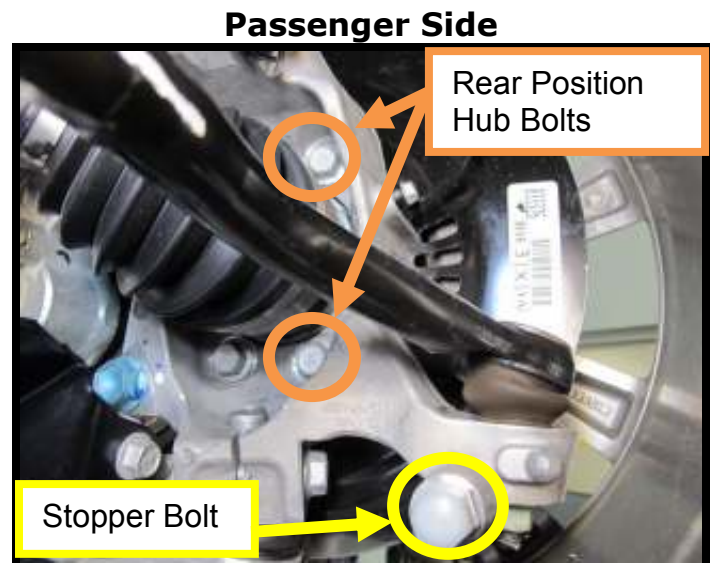

Figure 2
4. On the passenger side knuckle, use a torque wrench to torque the following bolts (Figure 2):